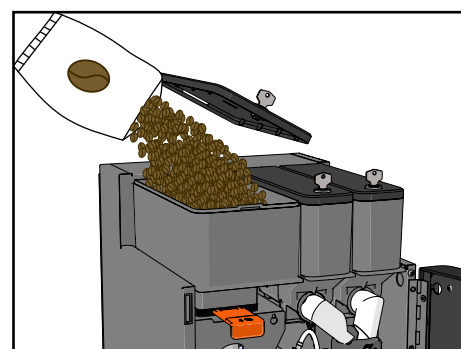

Figure 60.
2. Fill the canister with beans (see Figure 60).